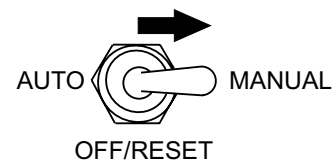

Figure 40. Auto-Off/Reset Manual Switch (Manual Position)
- Place the **Auto-Off/Reset Manual Switch** in the **MANUAL** position to start the engine (Figure 40).